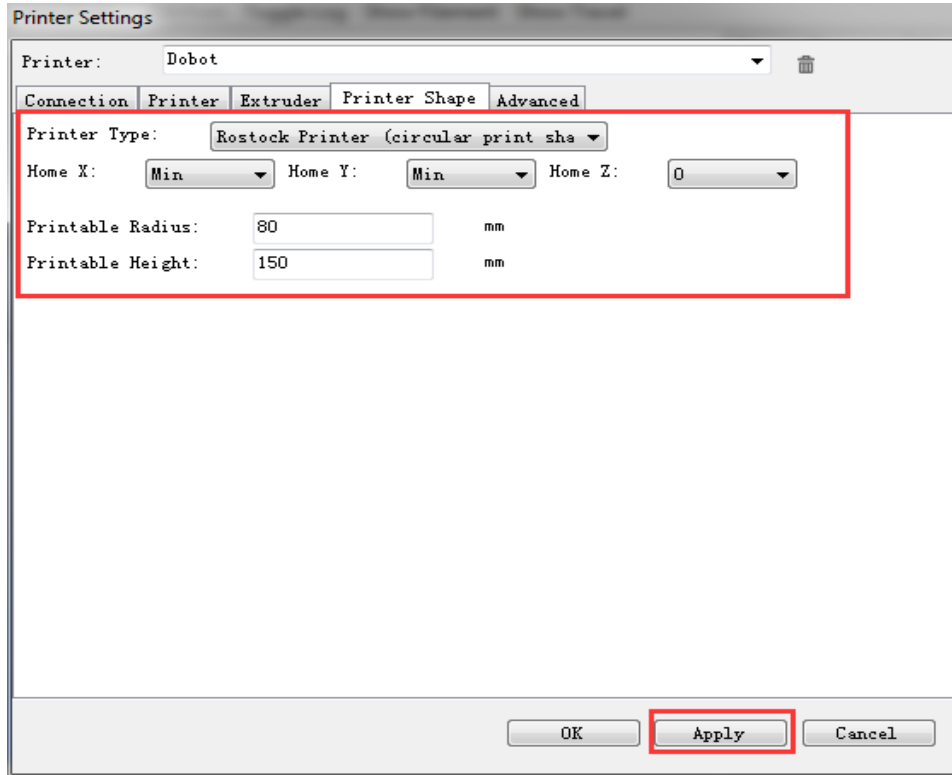

Figure 5.132 Printer shape settings
6. Set the corresponding parameters on the **Printer Shape** tab as shown in the red box of Figure 5.132, the other parameters are set by default. Then, Click **Apply**.